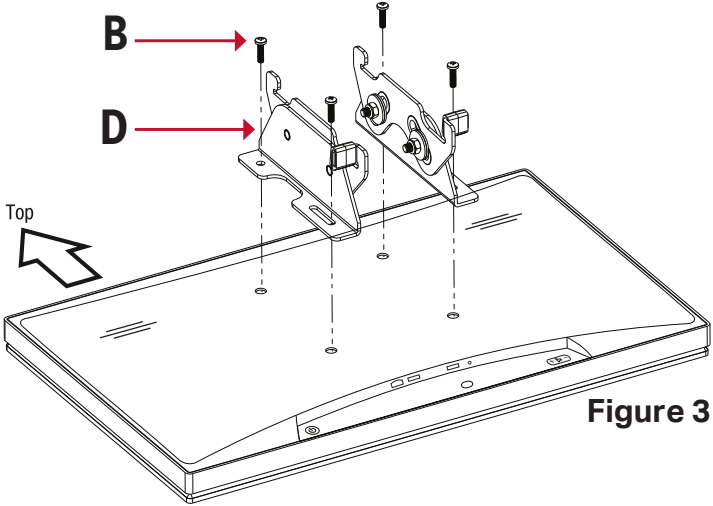

Figure 3
- c. Line up the two adjustable brackets (D) with the four holes on the back of the display as shown in **Figure 3**. Secure with 4 M4 x 6mm (B) screws.